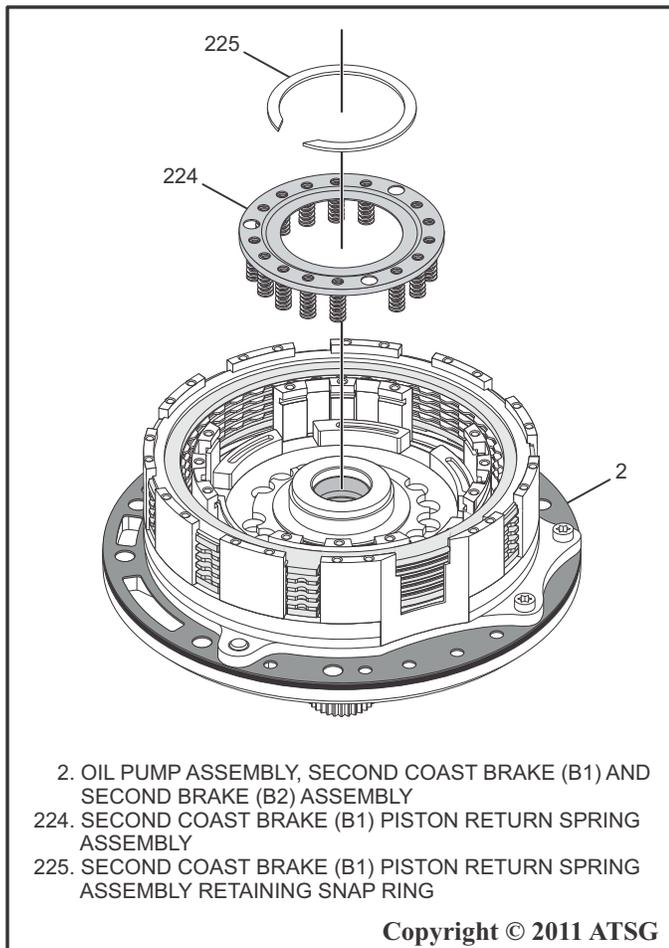

Figure 93
3. Using SST J 23327, and J 41236 or other similar spring compressor tool, compress the Second Coast Brake (B1) Piston Return Spring Assembly, then using a pair of snap ring pliers, remove the Second Coast Brake (B1) Piston Return Spring Retaining Snap Ring as shown in Figure 93.
4. Remove the Second Coast Brake (B1) Piston Return Spring Assembly from the oil pump assembly as shown in Figure 93.